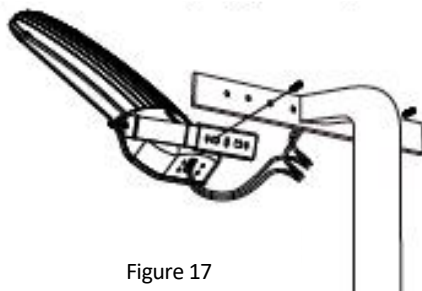

Figure 17
4. Make the appropriate wire connections as per the wiring diagram and insert into junction box (Figure 17).